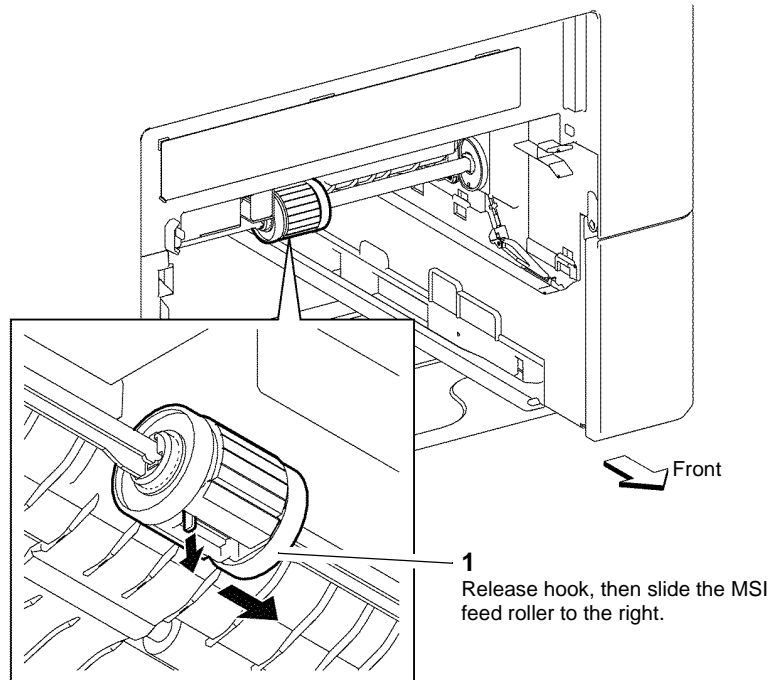

Figure 1 MSI feed roller assembly
3. Prepare to remove the feed roller assembly, Figure 1.